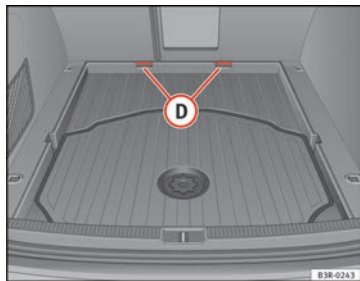

Fig. 124 Floor panel removed for increased luggage space
- Pull the complete floor panel towards the rear of the vehicle so it comes out of the retainers **(D)** ⇒ Fig. 124.